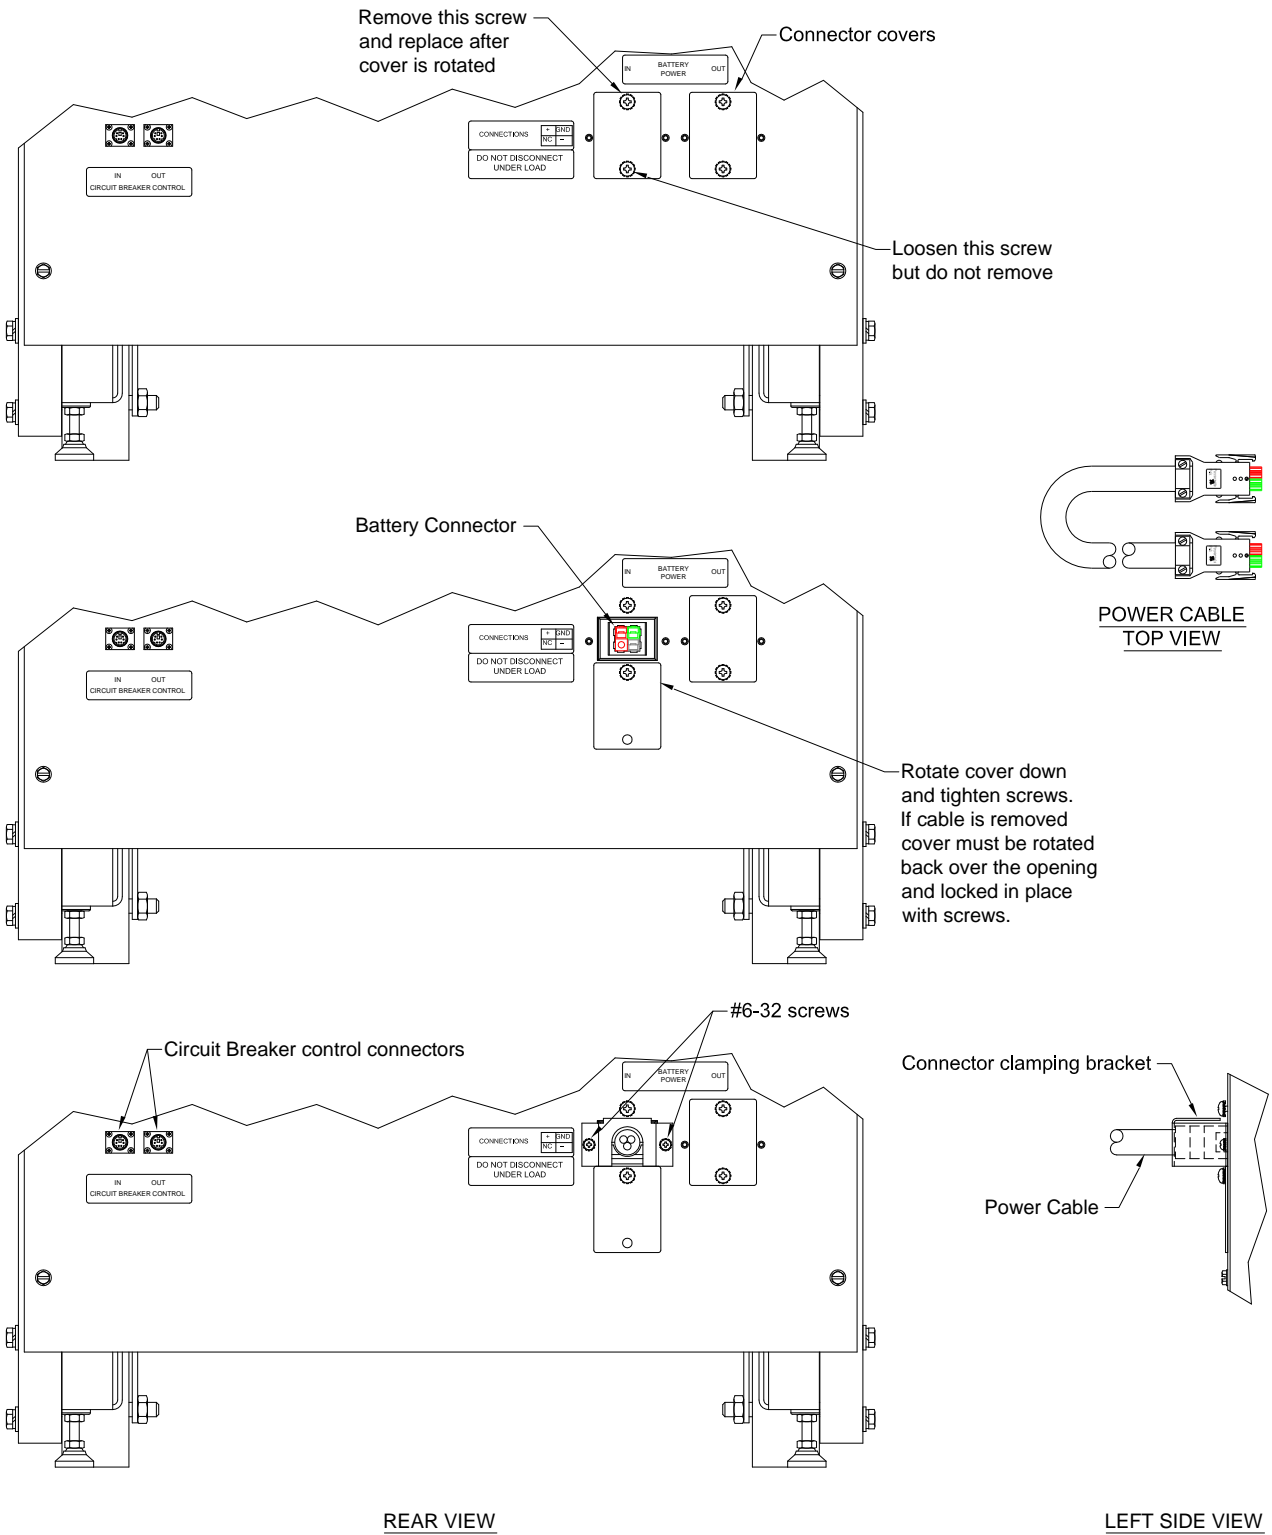

Figure 7 - Connectors
2. Use a voltmeter to verify that the battery string is above 408 VDC at the battery input connector shown in figure 7.
3. Remove the top screw holding the left (input) connector cover on the rear panel and loosen the bottom screw of this cover. Rotate the cover down. Replace the top screw and tighten both screws as shown in figure 7.
4. With the supplied 10 foot long power cable (**Staco part number 817-0368**), connect from the left (input) battery power terminals on the rear of the cabinet to the similar connector on the rear of the UPS. Ensure that the positive red connector of the cable connects to the positive red connector on the rear of the cabinets. See figure 7.
5. Once the power cable is connected, place the connector clamping brackets over the connectors as shown in figure 7 and lock in place with the #6-32 screws.